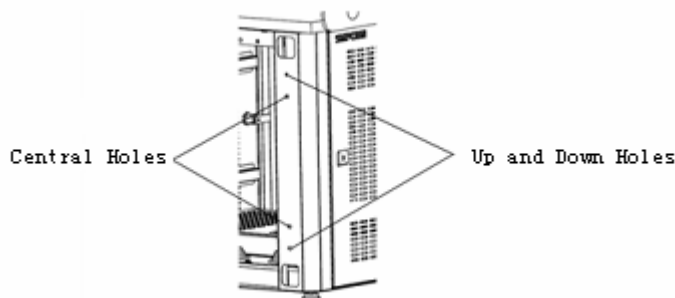

Figure 5-1 Holes
4. Use M5 screw to link the adjacent operation desks via the holes on the frame stand column. Link the work unit modules via the 2 holes up and down on the frame stand column. Link the work unit module and other unit modules (such as corner unit module and cabinet unit module, etc.) via the central 2 holes on the frame stand column. Tighten the screw M5 by screwdriver to link the adjacent operation desks closely. The holes are shown in Figure 5-1.